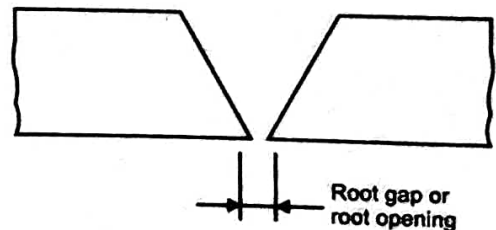

Fig. 5.54. Root gap
**Root Gap :** The separation between the members to be welded together, at the root of the joint. (Fig. 5.54).